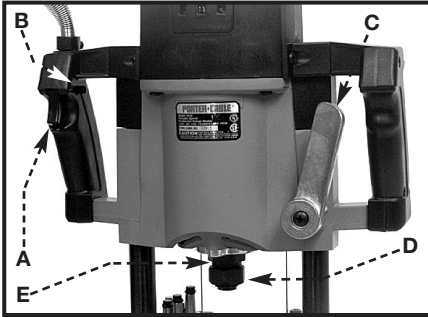
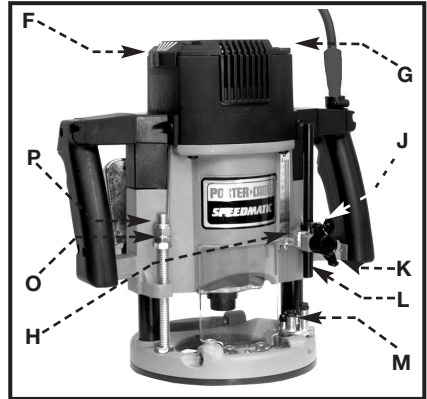

Fig. 1
Fig. 2
**MODEL 7538 Porter-Cable Router** is designed for continuous, rugged operations to handle the most demanding routing applications. The operating controls are shown in Fig. 1 and Fig. 2.